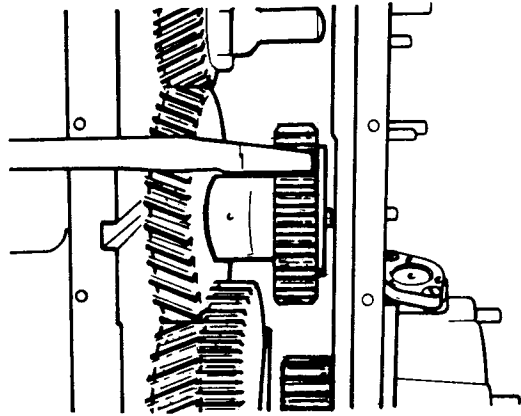

Fig H2.13
- (4) Refer to Fig H2.13. Check the end play of the intermediate double gear, which should be between 0,10 to 0,20 mm. The adjustment is carried out by sand papering the thrust washers or adding shims as necessary.